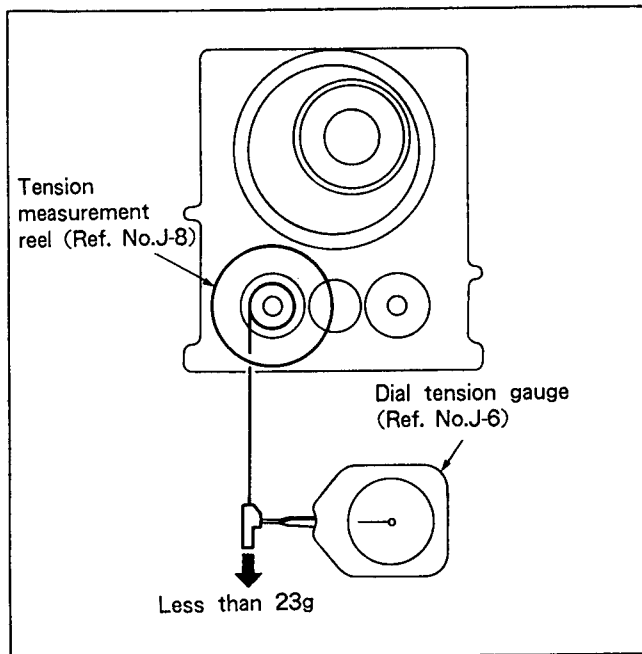

Fig. 7-60.
**1. S main brake torque (See Figs. 7-60. and 7-61.)**